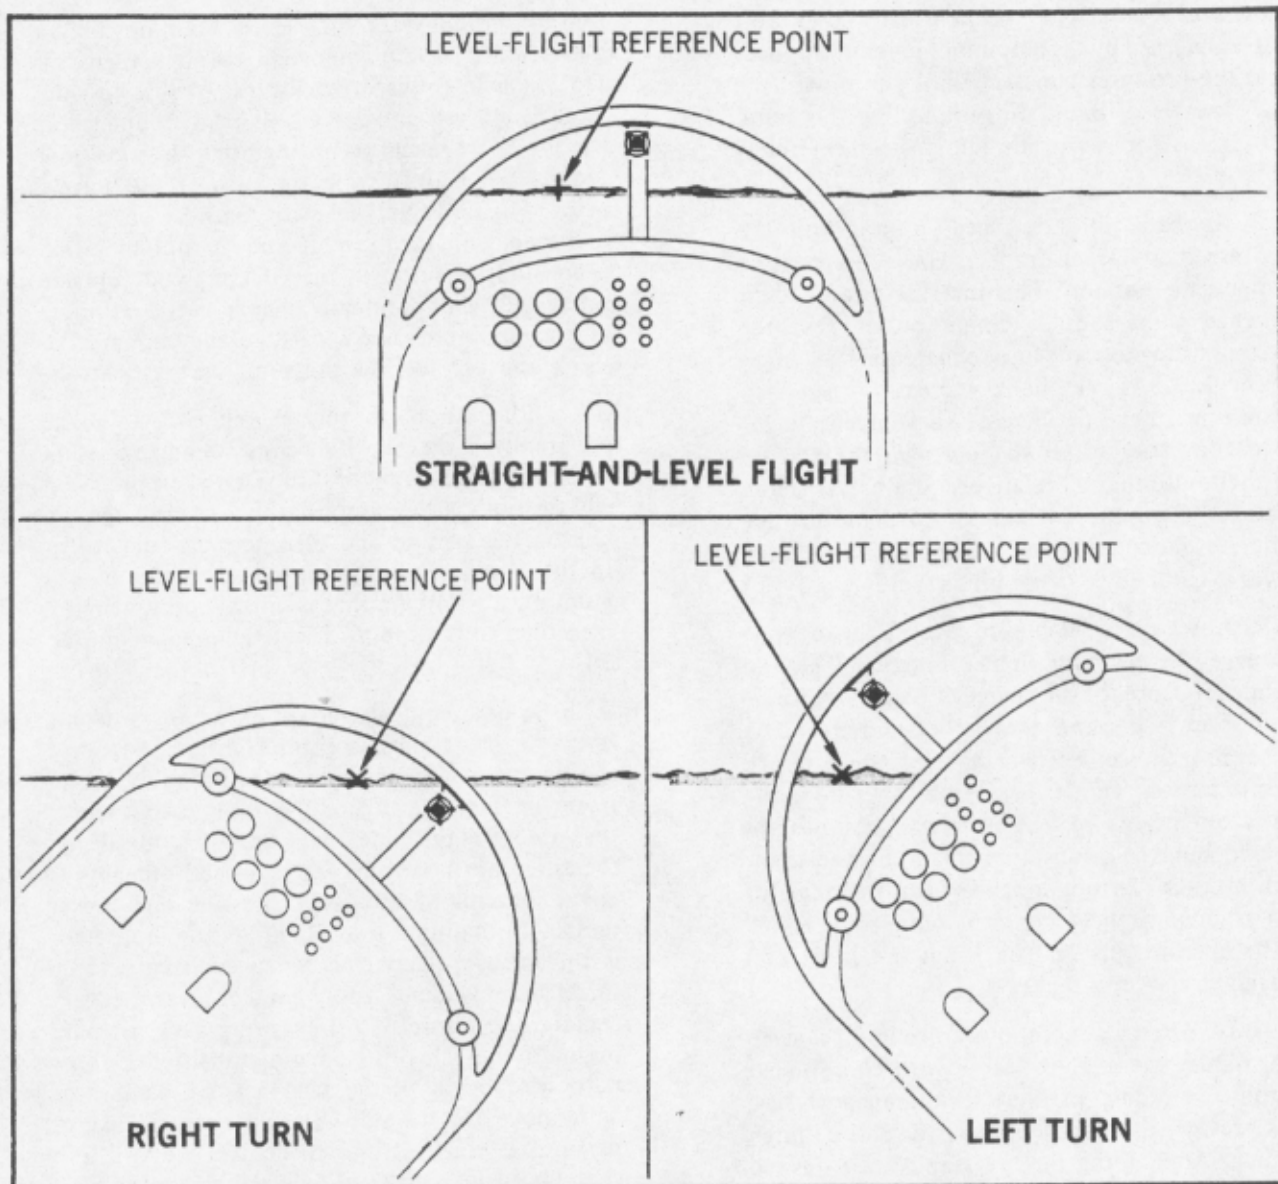

Figure 2.3. Cockpit View of Level-Flight Reference Point.
2.7.2. As bank is introduced, a point on the windscreen directly in front of you will appear to pivot on the horizon. This imaginary level flight reference point should remain on or near the horizon throughout the turn to maintain level flight (figure 2.3). As the bank increases, the pitch attitude will have to increase to compensate for the loss of vertical lift. In shallow turns, the increase in pitch attitude is relatively slight. As bank increases, the required increase in pitch attitude is more pronounced. Also, in steep turns increased power is required to maintain airspeed.